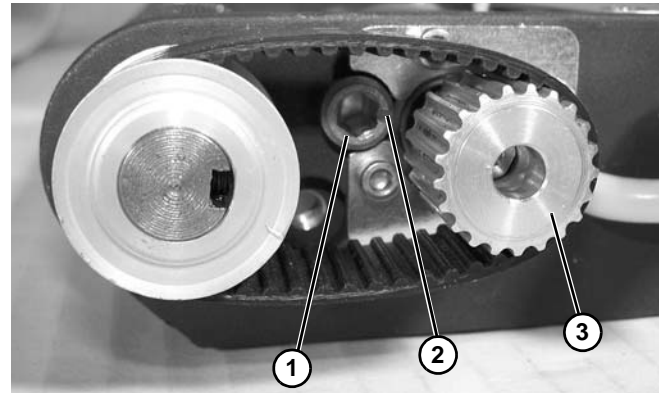
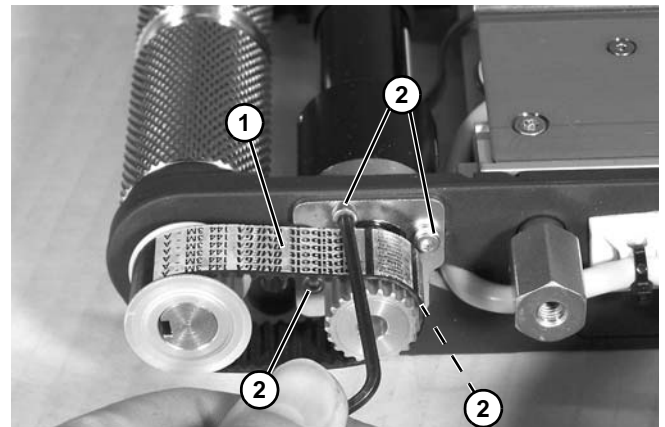

Figure 65
Figure 66
5. Tighten timing belt tension cam (Figure 65, item 1), making certain that pointer (Figure 65, item 2) on cam is pointing towards the motor drive spindle (Figure 65, item 3).
6. Rotate tension cam (Figure 65, item 1) to obtain 1/8 - 1/4" belt deflection at center of belt (Figure 66, item 1) with approximately 3-5 in-lb of pressure. Tighten four clamp plate screws (Figure 66, item 2) to 15 in-lb (1.6 Nm) to secure position.